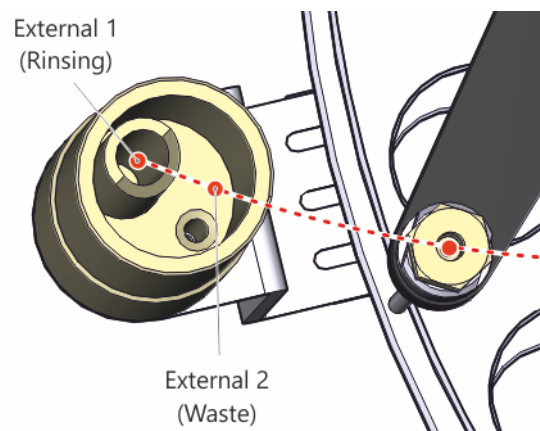

Figure 5. External positions.
- See **Figure 5** for position. The sample needle tip should be located approximately 1 cm below the edge of the outer tube.
- See **Figure 5** for position. The sample needle tip should go down to the bottom of the inner tube.